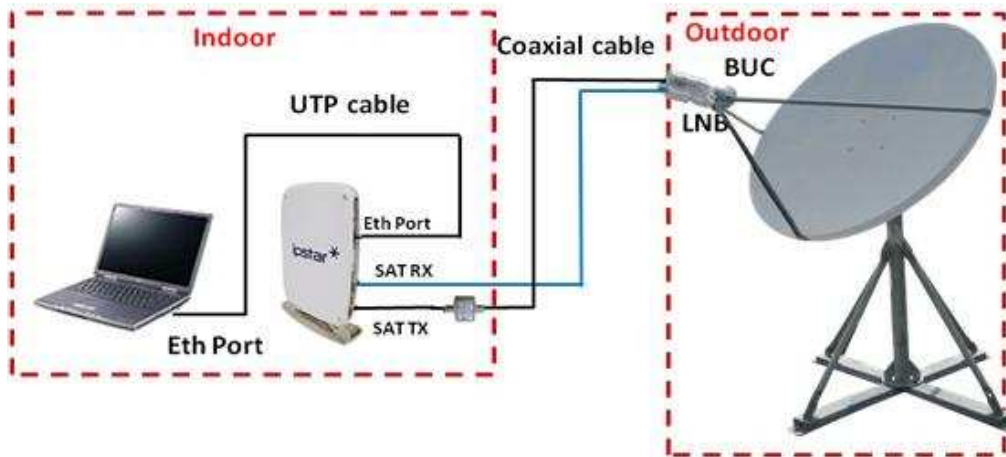

Figure 17: Connectivity diagram between notebook and IPSTAR equipment
- Connect the User Terminal with the ODU (the Tx port to the BUC and the Rx port to the LNB). Before starting iUAT program with ACT mode, you will need to insert a Tx optimizer/attenuation in between the BUC and the Tx port as shown in Figure 17.